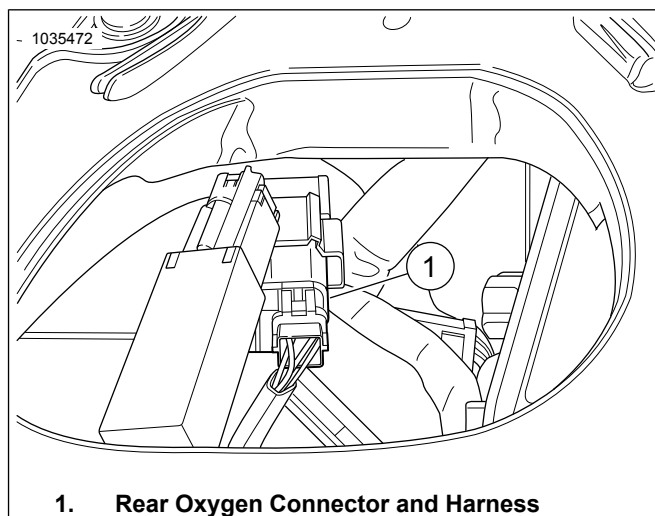

Figure 38. Rear Oxygen Sensor Location
See Figure 38. Disconnect rear (1) oxygen sensor connectors from main harness.
See Figure 38. Route black harness connector to main harness. Color match connectors: black to black.